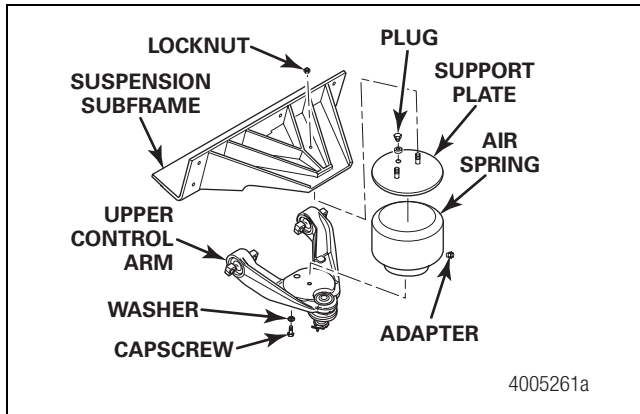

Figure 7.15
1. Position the air spring onto the upper control arm. Install the bolt and washer that secure the air spring to the upper control arm. Tighten the bolt to 96-100 lb-ft (130-135 N•m). Figure 7.15.
2. Install the two nuts and washers that secure the air spring support plate to the subframe. Tighten the nuts to 69-87 lb-ft (94-118 N•m). Install the adapter and tighten it to 30-33 lb-ft (40-44 N•m). Connect the air line to the air spring adapter. Install the plug and tighten it to 41-44 lb-ft (55-60 N•m). Figure 7.15.